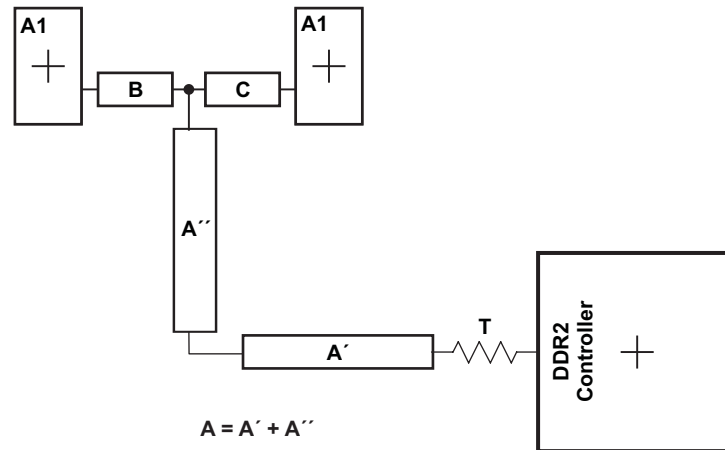

Figure 8-53. CK and ADDR_CTRL Routing and Topology
Figure 8-53 shows the topology of the routing for the CK and ADDR_CTRL net classes. The route is a balanced T as it is intended that the length of segments B and C be equal. In addition, the length of A ($A'+A''$) should be maximized.
(1) The length of segment $A = A' + A''$ as shown in Figure 8-53.
(2) Series terminator, if used, should be located closest to the device.
(3) Center-to-center spacing is allowed to fall to minimum (2w) for up to 500 mils of routed length to accommodate BGA escape and routing congestion.
(4) CACLM is the longest Manhattan distance of the CK and ADDR_CTRL net classes.